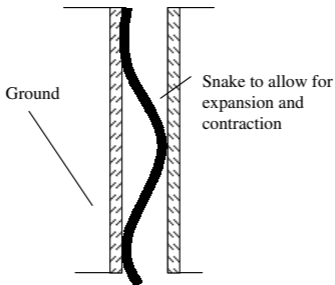

Figure 19-1 LAYING PLASTIC PIPE IN UTILITY TRENCHES
- ❑ Check that plastic pipe is snaked in trenches to allow for expansion and contraction. Refer to Figure 19-1 and Table 19-1.